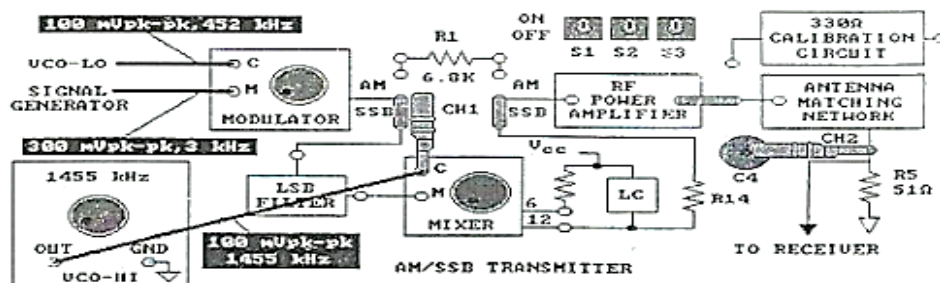

Figure 5-8.
5. Connect the oscilloscope channel 2 probe to the MODULATOR's carrier signal input (C). Set channel 2 for 50 mV/DIV.
11. Connect the circuit and the oscilloscope channel 1 and channel 2 probes, as shown in Figure 5-8.